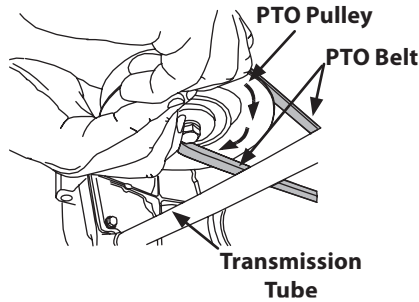

Figure 35
- d. While still holding the belt downward, continue turning the PTO pulley until the belt is rolled off the pulley. Refer to Figure 35.
11. Pull the right side of the belt rearward and place the narrow "V" side of the belt into the PTO pulley. See Figure 35.
12. While holding the belt and pulley together, rotate the pulley to the left (see Figure 35). Continue holding and rotating the pulley and belt until the belt is fully rolled into the PTO pulley.